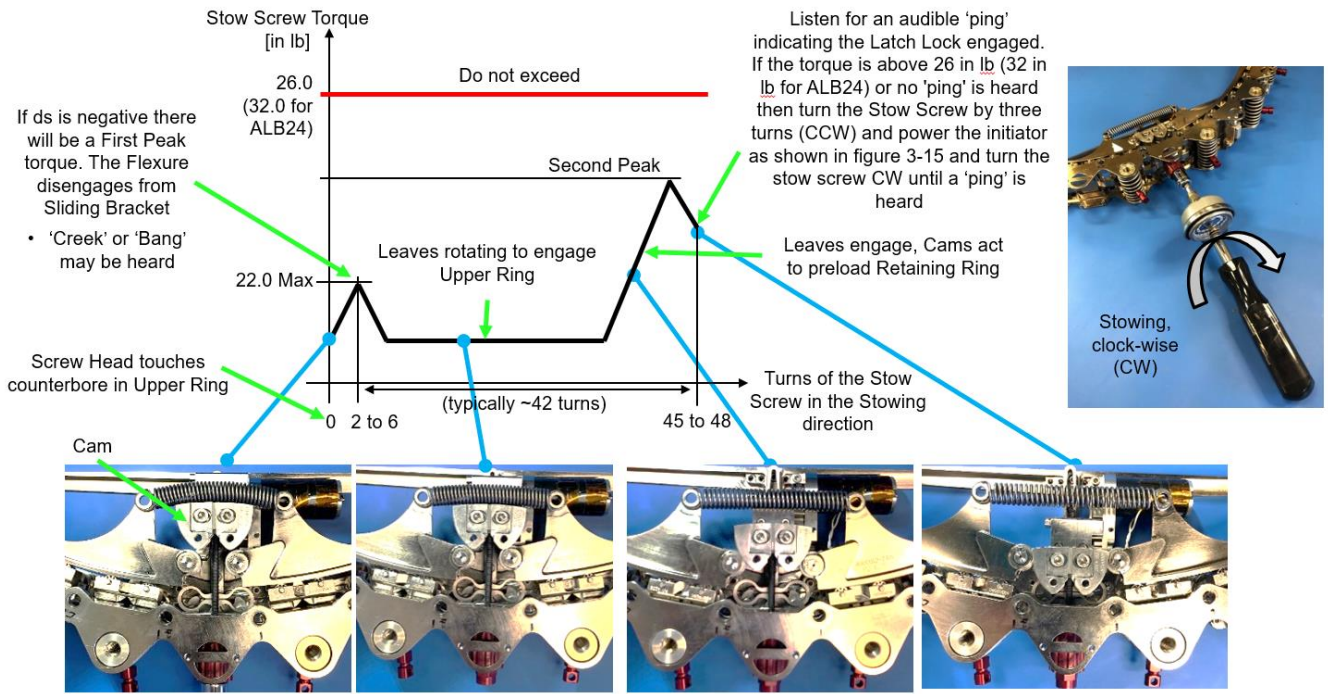
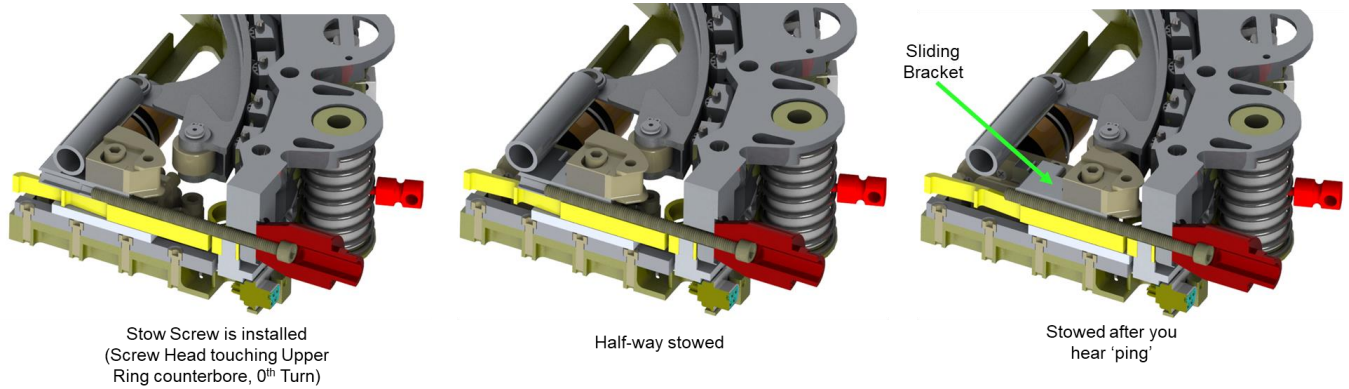
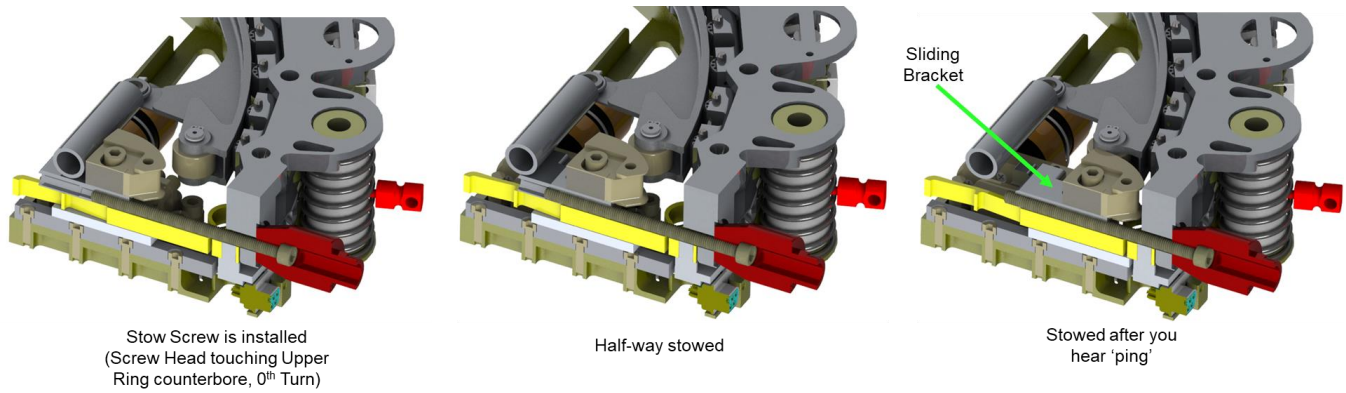
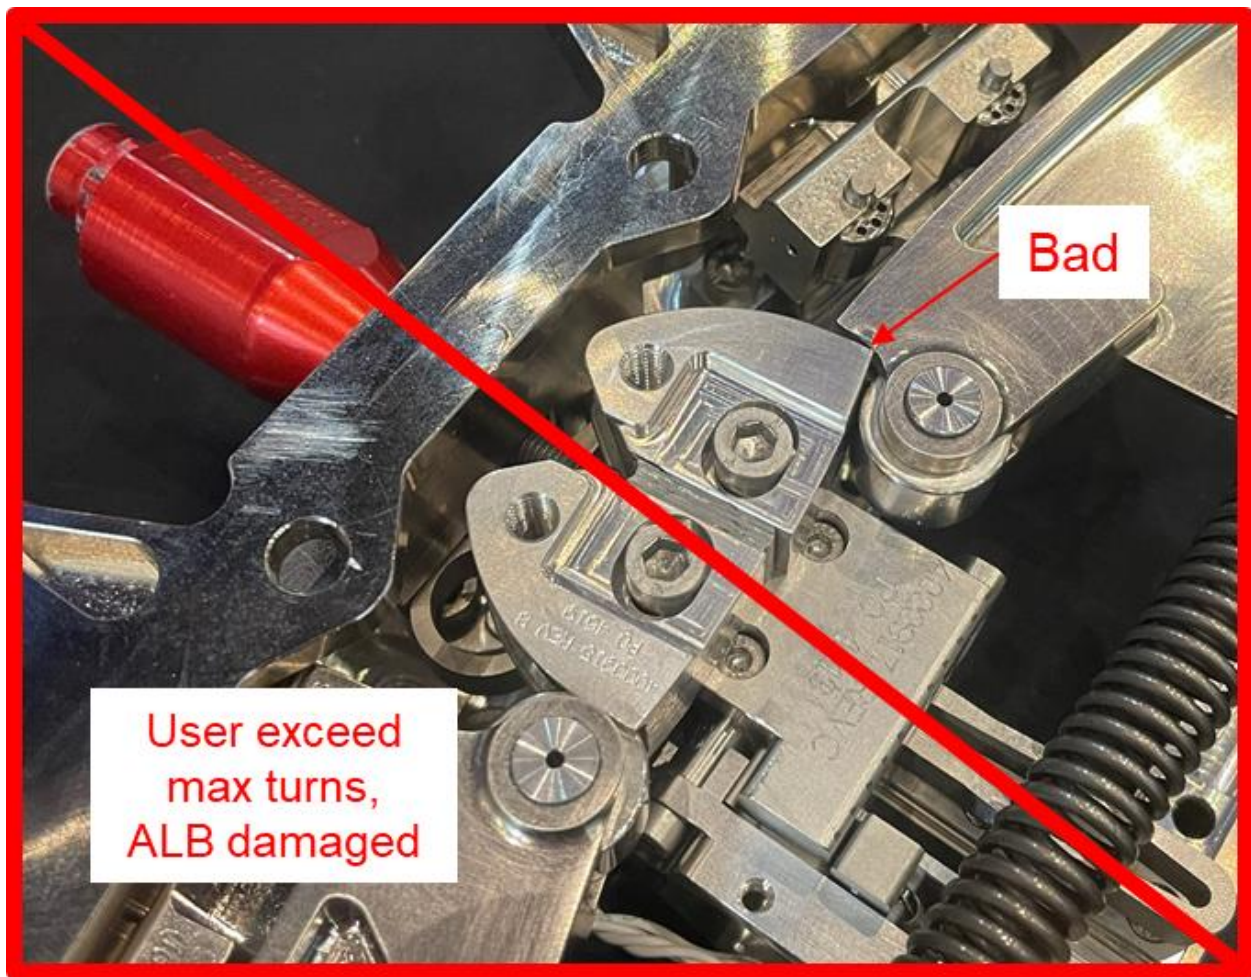

Figure 11-1: Stow Screw turns vs. Stow Screw torque, ds less than .075 in (-.135 in to .075 in)
Figure 11-2: Sectional view of stowing
Figure 11-4: Sectional view of stowing
Figure 11-5: Over-stowed ALB
11.2.2	<p>Figure 11-1 shows expect torque vs turns profile.</p> <p>Turn Stow Screw into the sliding bracket until the Screw Head is just touching Upper Ring. This is the 0th turn. See Figure 11-2.</p> <p>Verify the Stow Screw threads are sufficiently engaged with Sliding Bracket by remeasuring and depth from the top of the hex head of the Stow Screw to the threaded rod. Record depth below. Calculate Thread Disengagement by subtracting this depth from the initial depth measured in Step 10.1.5. Verify Thread Disengagement < .05".</p> <p>New Threaded Rod Depth [in]: _____</p> <p>Thread Disengagement [in] = Depth from 10.1.5 – New Depth = _____</p>
11.2.4	<p>Continue to turn the Stow Screw clockwise while counting turns until either an audible “ping” is heard, the maximum stow torque determined in step 11.1.1 is reached, OR the maximum number of turns determined in step 11.1.1 is reached. See Figure 11-2.</p> <p>Do NOT exceed maximum number of turns or maximum stow torque. Doing so may detrimentally damage the ALB. See Figure 11-5.</p>
11.3.2	<p>Figure 11-1 shows expect torque vs turns profile.</p> <p>Turn the Stow Screw and ensure the Screw is threading into the Sliding Bracket and the Stow Screw Head is not just spinning on the threads. Turn Stow Screw until the Screw Head is just touching Upper Ring. This is the 0th turn. See Figure 11-2.</p> <p>Verify the Stow Screw threads are sufficiently engaged with Sliding Bracket by remeasuring the depth from the top of the hex head of the Stow Screw to the threaded rod. Record depth below. Calculate Thread Disengagement by subtracting this depth from the initial depth measured in Step 10.5.1. Verify Thread Disengagement $< .05$".</p> <p>New Threaded Rod Depth [in]: _____</p> <p>Thread Disengagement [in] = Depth from 10.1.5 – New Depth: _____</p>
11.3.3	Turn the Stow Screw clockwise while counting turns until either an audible “ping” is heard, the maximum stow torque determined in step 11.1.1 is reached, OR the maximum number of turns determined in step 11.1.1 is reached. See Figure 11-4. Do NOT exceed maximum number of turns or maximum stow torque. Doing so may detrimentally damage the ALB. See Figure 11-5.